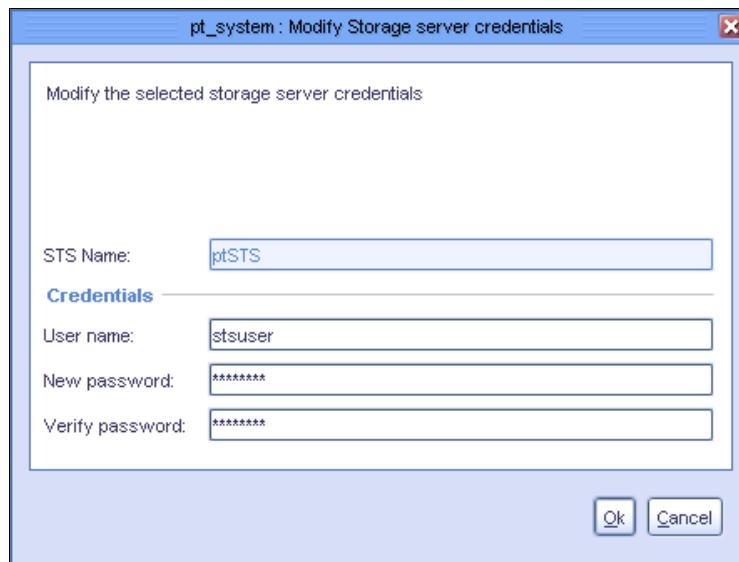

Figure 5-83 Modify Storage server credentials
- The STS modify credentials window opens (Figure 5-83). If you are modifying the user name, enter a new user name in the User name field. If you are modifying the password, enter a new password in the New password field and re-enter the password in the Verify password field.